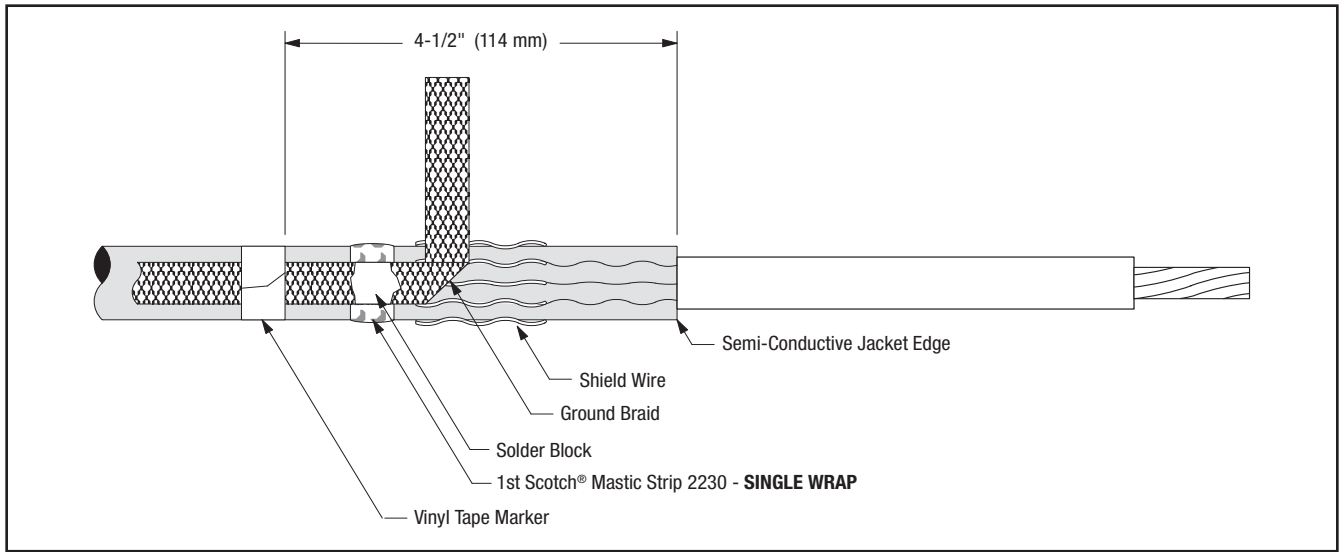

Figure 20
13.2 Position pre-formed ground braid with short tail directly over cut edge of folded back shield wires. PLEASE NOTE: The ground braid needs to make full contact with the shield wires. Position long tail of ground braid, extending over cable semi-conductive jacket with solder block over mastic strip (Figure 20). Secure ground braid to cable semi-conductive jacket **4-1/2" (114 mm) from cable Semi-Conductive Jacket edge using vinyl tape (See NOTE and Figure 20).**